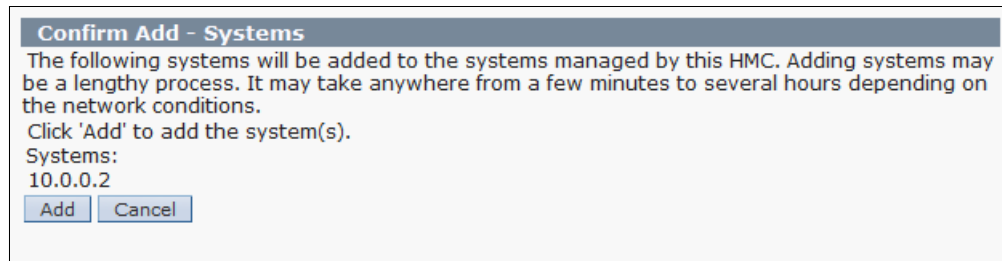

Figure 5-57 Confirm add systems
2. In the Confirm Add panel (Figure 5-57), click **Add**.